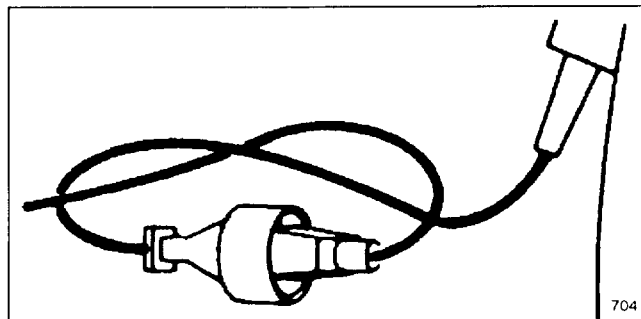

Figure 6
11. Properly connect extension cord to power supply cord to prevent disconnection of the cords (Fig. 6).
1. Secure the power supply cord and a suitable extension cord as shown in Figure 6.